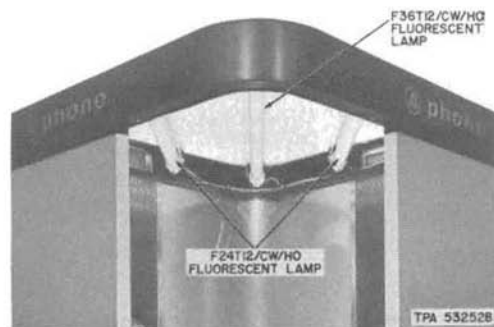

Fig. 12—Ceiling Area of Kiosk
2.12 The booth is illuminated by one F36T12/CW/HO and two F24T12/CW/HO fluorescent lamps (Fig. 12).